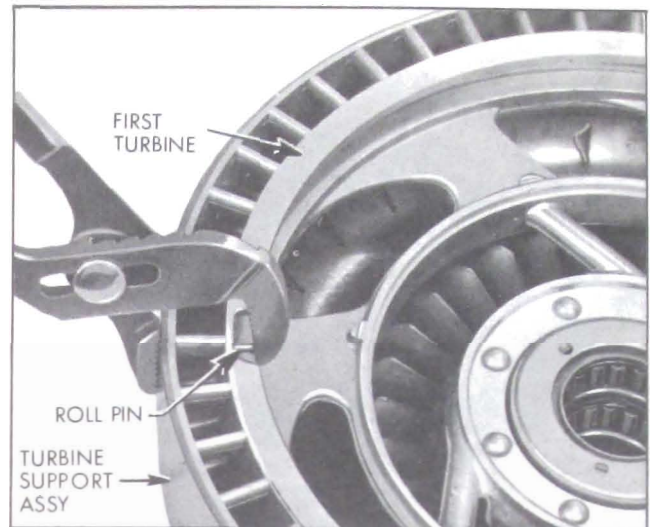

Figure 5-68—Positioning Turbine Roll Pins
16. Use a pair of channel lock or other suitable pliers to force roll pins into engagement with first turbine support roll pin holes. Roll pins should not extend outside support more than $1/32''$. See Figure 5-68.